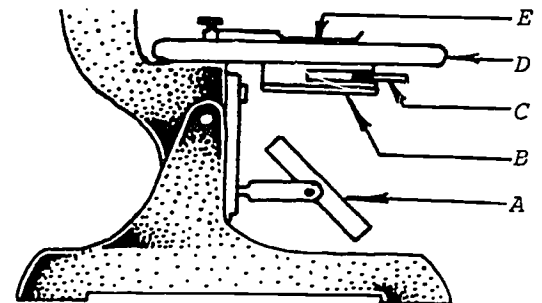
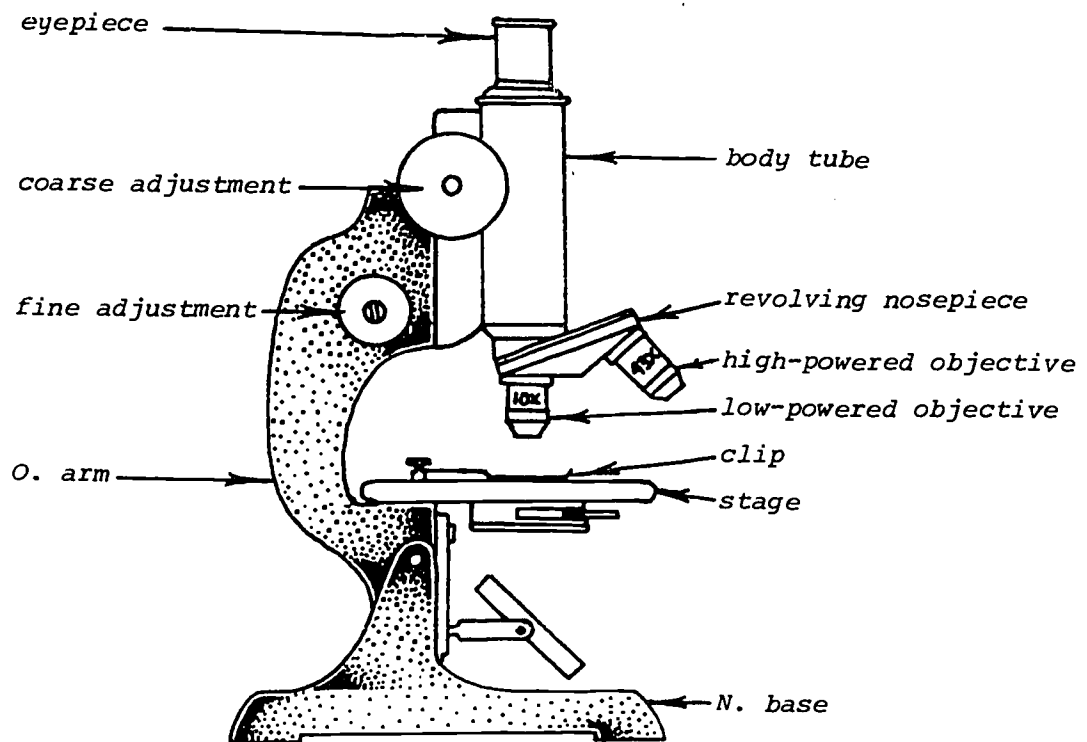

FIGURE 3
FIGURE 6
2. Find the parts of your microscope which are labeled in Figure 3. (Your microscope may not be identical to the one shown in Figures 3 to 6.)
5. Figure 6 shows the entire microscope. It is a composite of Figures 3 to 5 and also shows two additional parts.